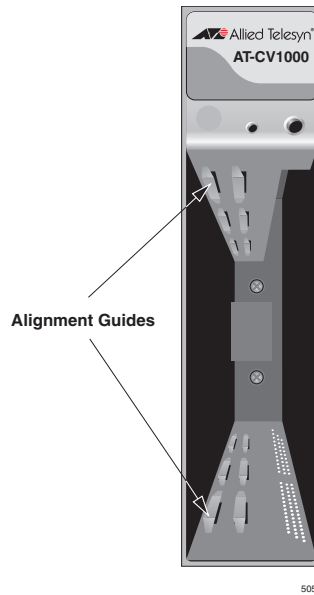

Figure 17. Location of the Alignment Guides
4. Locate the alignment guides on both sides of the slot, as shown in Figure 17.